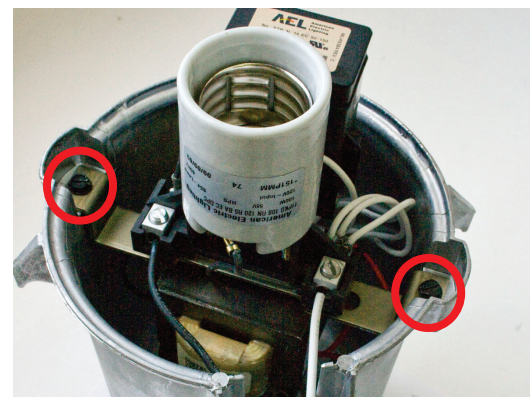

Figure 2. Remove the two screws that secure the socket, ballast and starter to the housing.
1. Loosen the two screws that secure the socket, ballast and starter within the housing, one screw on each side. See Figure 2. Remove the starter for easy access to the housing screw on the same side. Remove the screws and set aside to reuse.